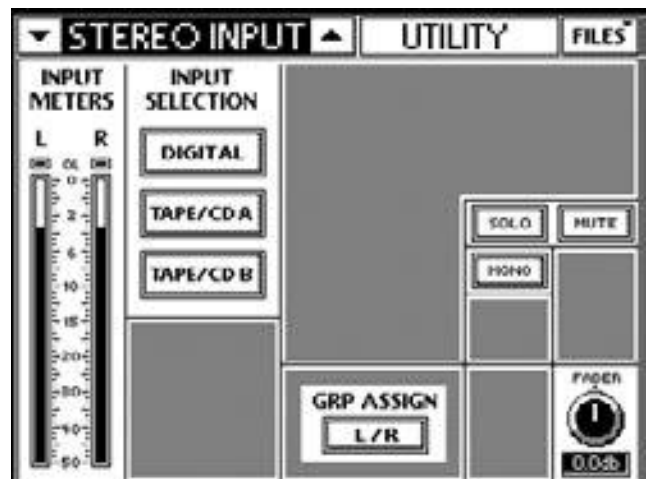

Figure 2-6 Stereo Input Assign
3. Touch **STEREO INPUT ASSIGN** on the Touchscreen (Figure 2-6).
4. Touch **TAPE/CD A** or **TAPE/CD B** in the INPUT SELECTION area (Figure 2-6).